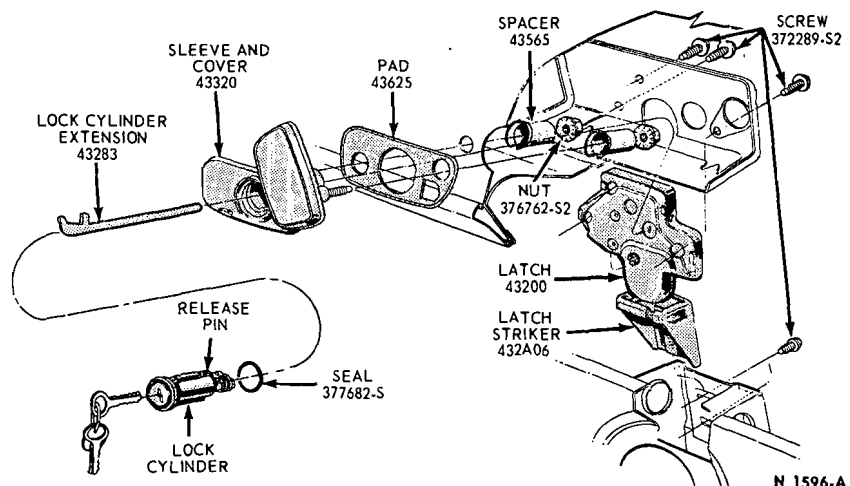

FIG. 38—Luggage Compartment Latch Installation—Cougar—Typical
lease pin (Fig. 38) and pull the lock cylinder from the sleeve and cover.
4. Insert the lock cylinder and extension into the sleeve and cover, making sure the extension is inserted into the slot of the latch (Fig. 38).
2. Depress the lock cylinder release pin (Fig. 38) with a piece of wire and pull the lock cylinder extension, and seal from the sleeve and cover.
1. Position the latch to the luggage compartment door and install the three attaching screws (Fig. 38).